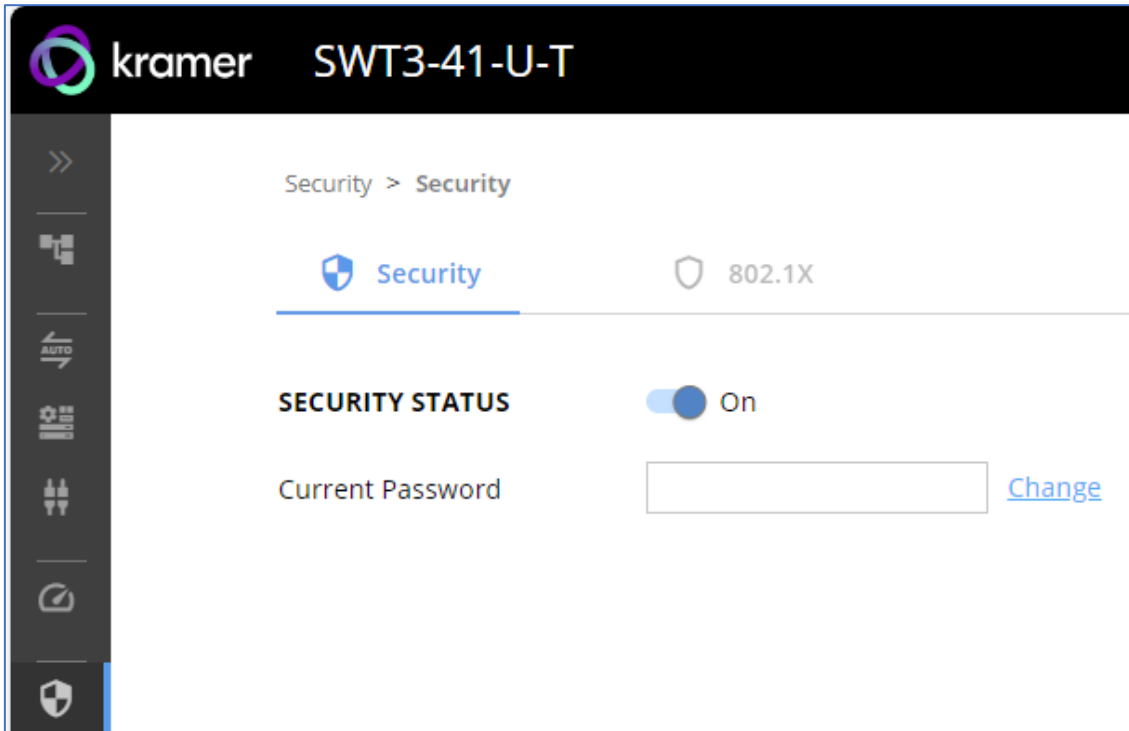

Figure 41: Security – Security Tab
1. Go to the Security page (Figure 41).
1. Go to the Security > Security (Figure 41).